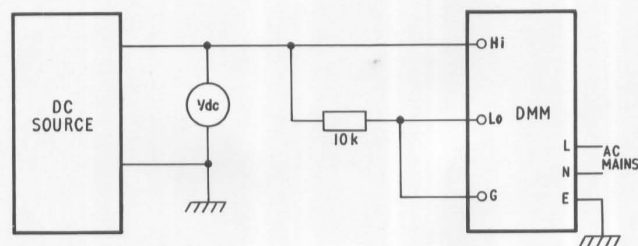

Fig. 4.4. Interference Rejection:- Common Mode (dc) Test Circuit.
1. Connect instrument as shown in Fig. 4.4.